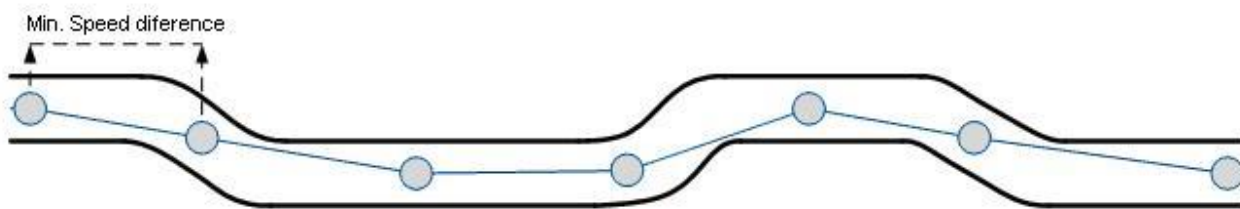

Figure 60 Speed based tracking
**Speed based data acquiring** (Figure 60) – records are being acquired when speed difference between last recorded coordinate and current position is greater than the defined value. Entering zero disables data acquisition depending on speed. This method is suitable for urban territories. Min speed source can be selected by GPS speed, LVCAN speed, ALLCAN speed, FMS Speed or KLINE speed